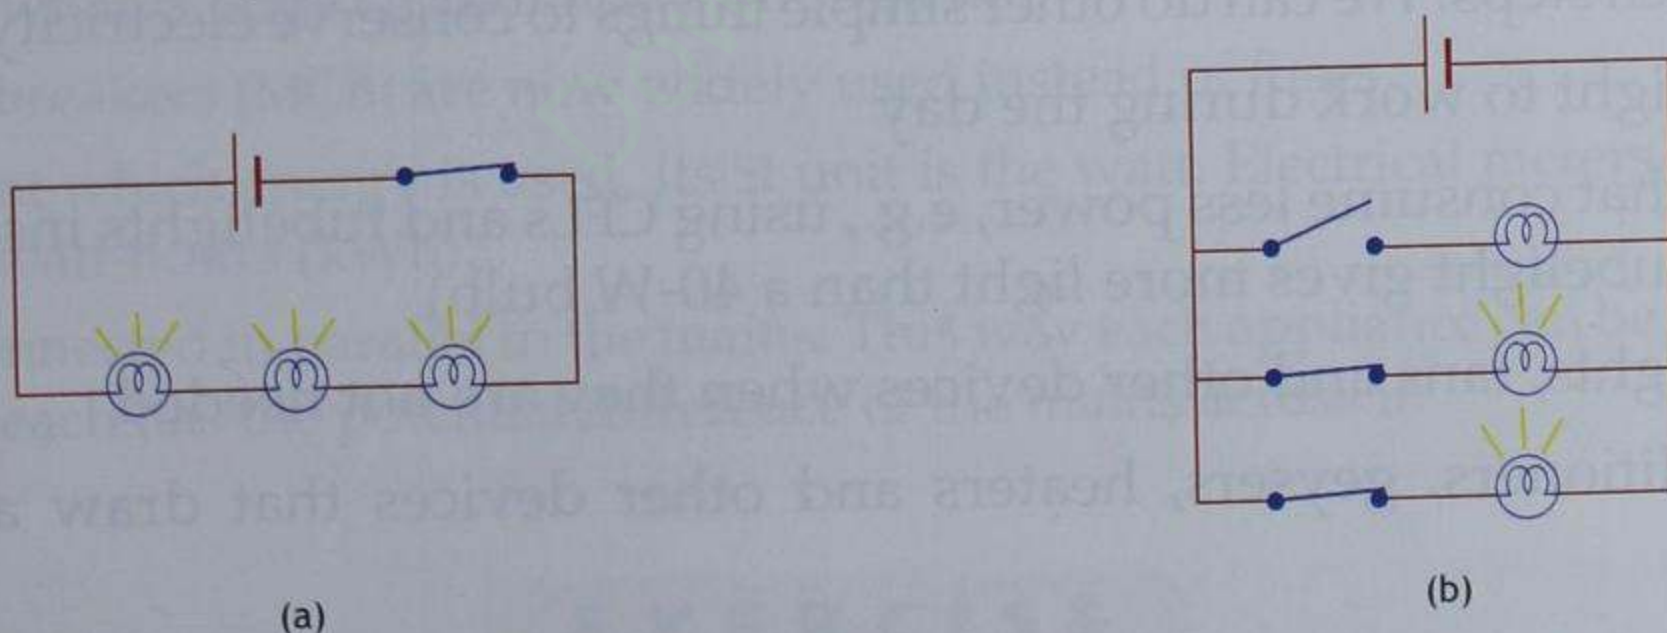

Fig. 7.23 Bulbs connected (a) in series (b) in parallel
There are two ways of connecting electrical appliances to a source of electricity. Figure 7.23(a) shows what is called a **series connection**, and Figure 7.23(b) shows what is called a **parallel connection**. In a series connection, current flows along a single path through all the appliances. In a parallel connection, each appliance is connected individually to the source of electricity. In other words, current can flow through several paths. Appliances at home are always connected in parallel to the mains. This has two advantages.
1. If appliances are connected in series, as the bulbs in Figure 7.23(a), the circuit gets broken if any of them stops functioning. Besides, when the switch is turned on, all of them will work together and there will be no option of using them one at a time. On the other hand, when appliances are connected in parallel, as in Figure 7.23(b), each of them can be used separately. Also, if one stops functioning, it does not affect the other circuits.